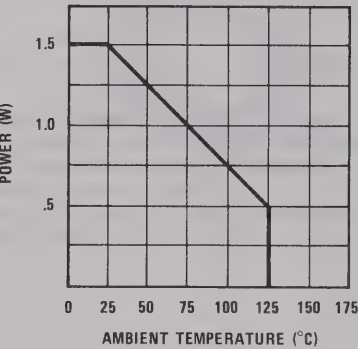

Figure 1.
**Note 1:** Characteristics apply for circuit of Figure 1. Min and max limits apply from -55°C to +125°C for the MH0012 and from 0°C to +85°C for the MH0012C. Typical values are for TA = 25°C.